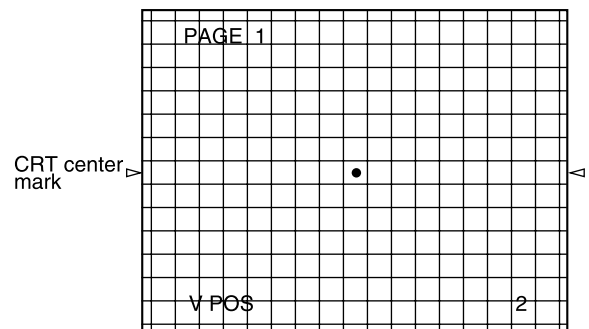

Fig.1-2
- Using the volume keys on the jig remote controller, adjust the dot position to the exact vertical centre position in the crosshatch screen. (Fig. 1-2)